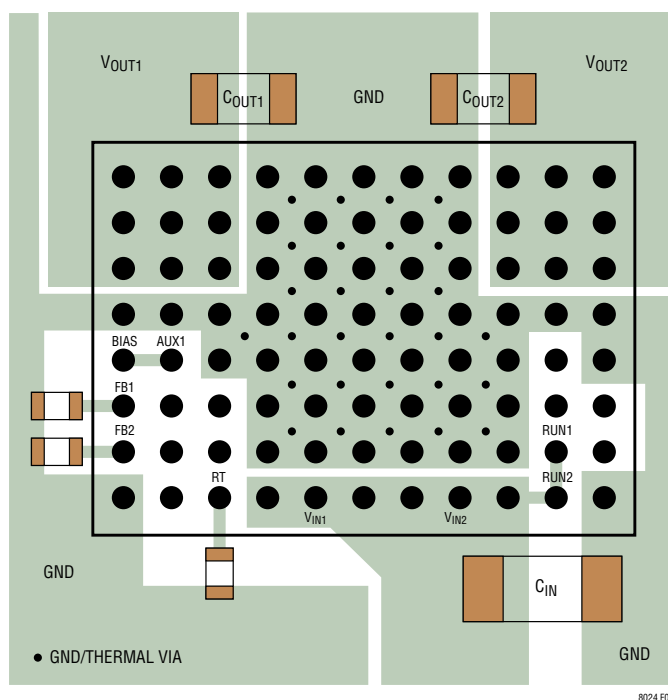

Figure 2. Layout Showing Suggested External Components, GND Plane and Thermal Vias
operation with a haphazard or poor layout. See Figure 2 for a suggested layout. Ensure that the grounding and heat sinking are acceptable.
6. Use vias to connect the GND copper area to the board's internal ground planes. Liberally distribute these GND vias to provide both a good ground connection and thermal path to the internal planes of the printed circuit board. Pay attention to the location and density of the thermal vias in Figure 2. The LTM8024 can benefit from the heat sinking afforded by vias that connect to internal GND planes at these locations, due to their proximity to internal power handling components. The optimum number of thermal vias depends upon the printed circuit board design. For example, a board might use very small via holes. It should employ more thermal vias than a board that uses larger holes.